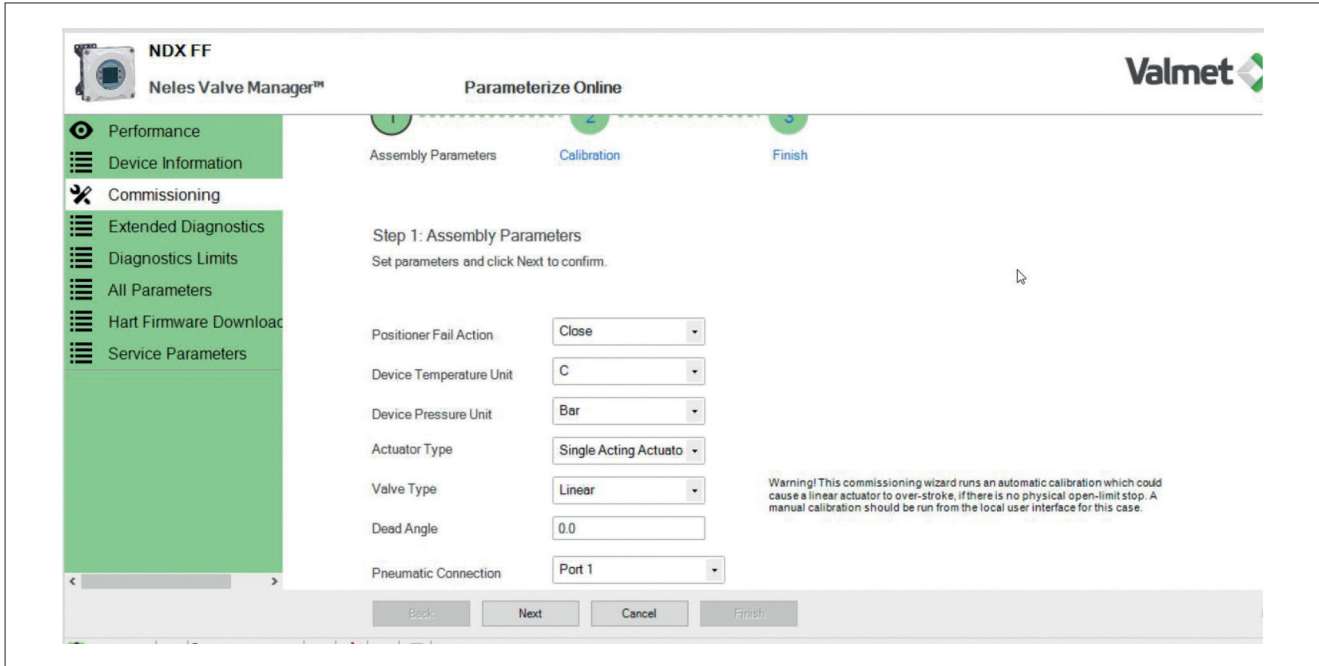

Figure 1. Assembly related parameters' setup in Neles Valve Manager™ DTM
1. See figure 1 for commissioning the device. Set correct assembly related parameter settings and run calibration.